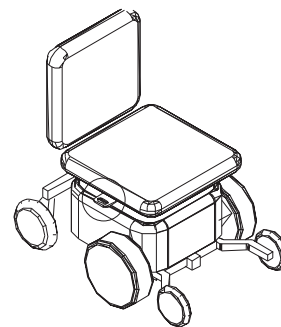

Figure 4-51
6. Place the seat back onto the mobility device as instructed in the mobility devices owner's manual. **See Figure 4-51.**